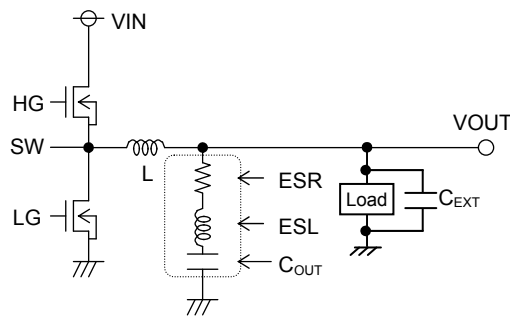

Figure 23. Output Capacitor
Also, give consideration to the conditions in formula (5) below for output capacitance, bearing in mind that output rise time must be established within the fixed soft start time. As output capacitance, bypass capacitor will be also connected to output load side ( $C_{EXT}$ , Figure 23). Please set the over current detection value with regards to these capacitance.